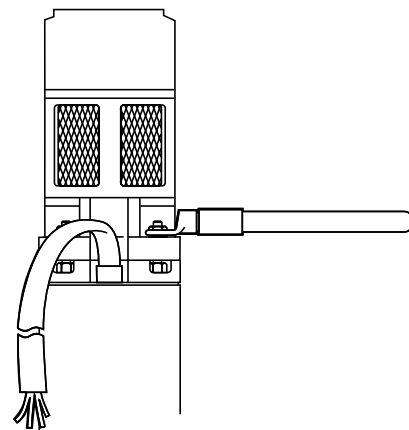

fig. 4
- **Screw diagonally securing screw, possibly by dynamometric spanner (fig. 4), at 18Nm.**